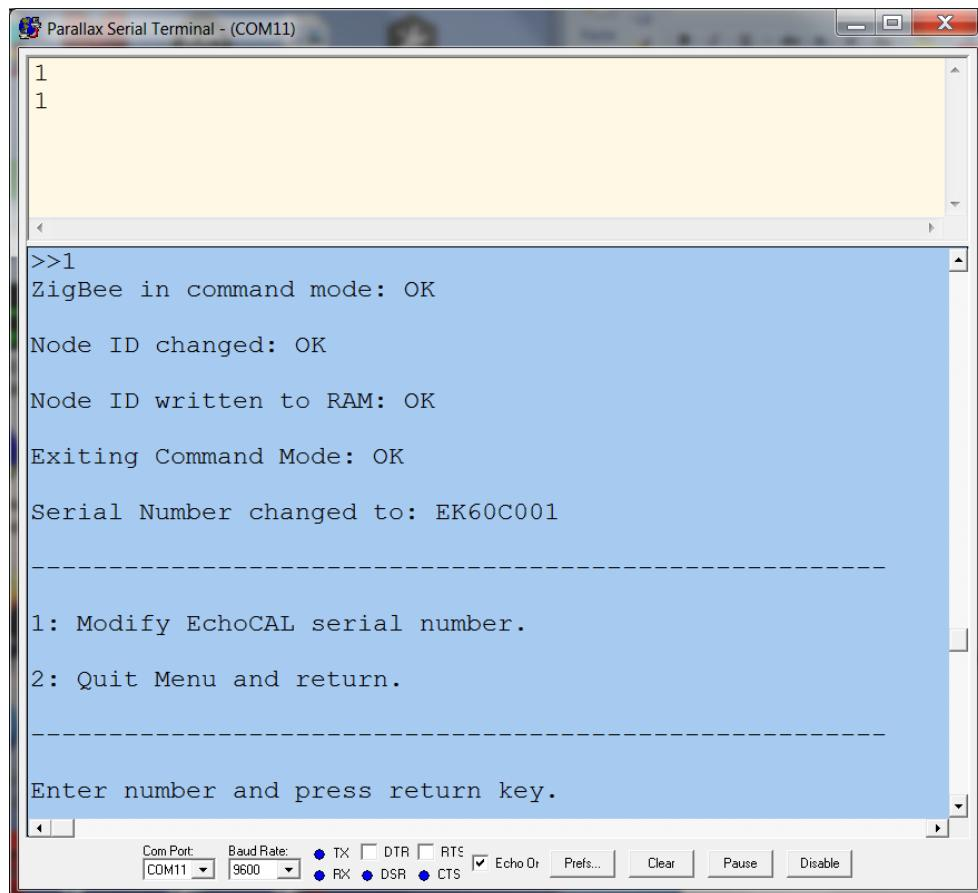

Figure 51: Exiting the programming menu.
- h. Once the serial number has been changed, select menu item “2” to exit the Modify Serial Number menu (Figure 51). The control box’s serial number should now be changed. At this point, the *EchoCal* Control Box should be ready for echosounder calibration activities.